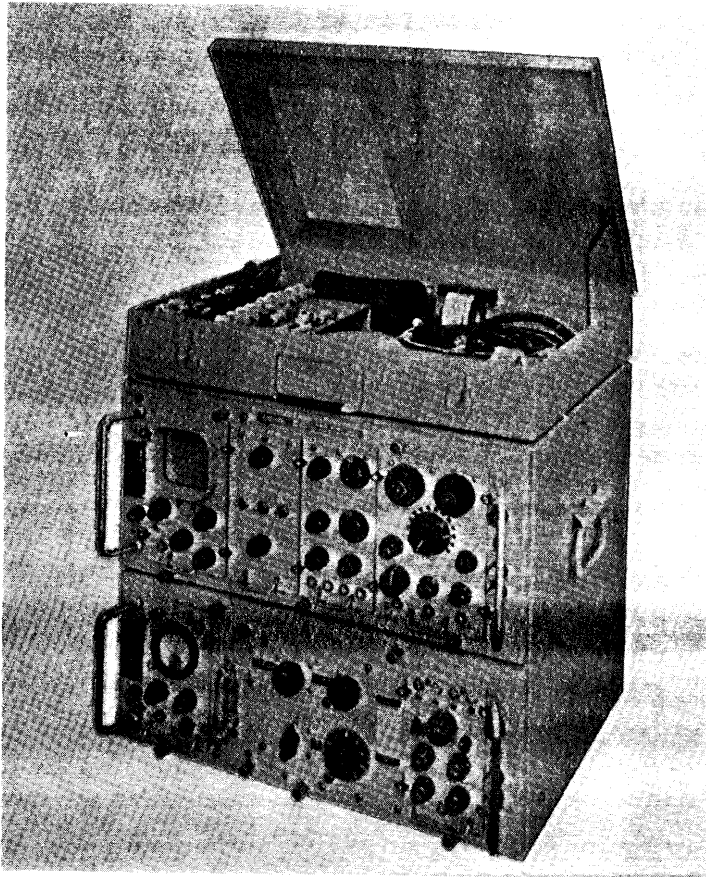

Figure 1-1. Radar Test Set AN/UPM-98A Overall Equipment View
b. **PHYSICAL CHARACTERISTICS.** Figure 1-1 shows both Radar Test Sets AN/UPM-98A and AN/UPM-98B. Both are transportable test sets for use with secondary radar equipments and consist of two separately nomenclature drawer assemblies mounted in a common electrical equipment case. The detailed nomenclatures and accessory items applicable to each Radar Test Set are listed in table 1-1.